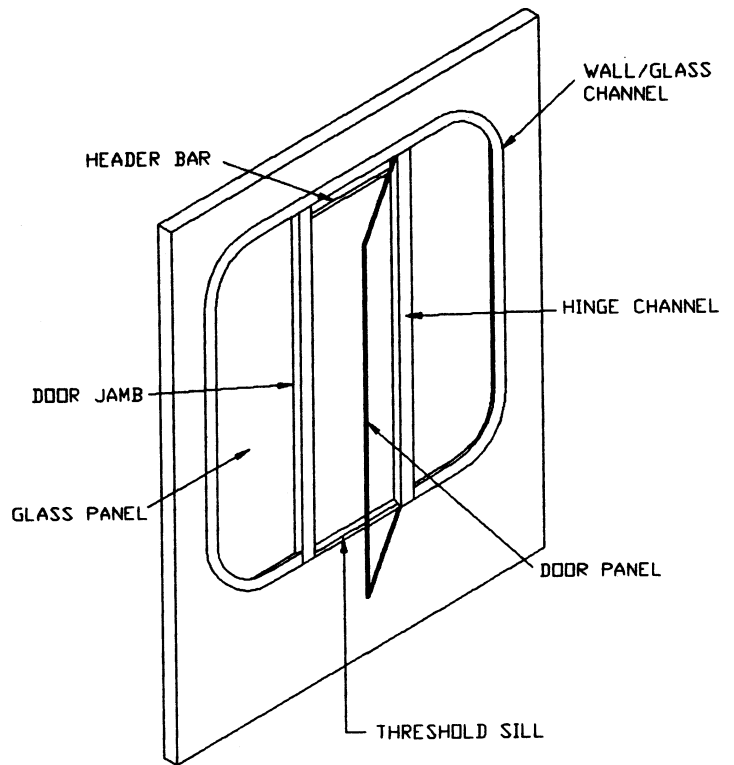

Figure 1
** SEE FIG. 1 FOR PARTS IDENTIFICATION **